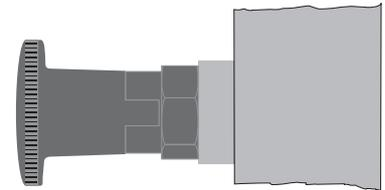

FIGURE 19
To adjust the height-adjustable toe plate, unlock the particularly provided spring-urged stop bolts (see Figure 19).
**The nose must be fully inserted into the groove, see Figure 19**